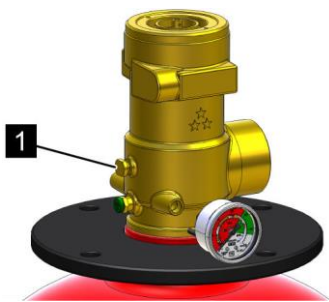

Fig. 81: Control connection
5. ➤ Screw the adapter into the control connection (Fig. 81/1) of the valve of the "pilot cylinder" extinguishing agent container and tighten with 8 +0/-2 Nm (5.9 +0/-1.5 lbs•ft).